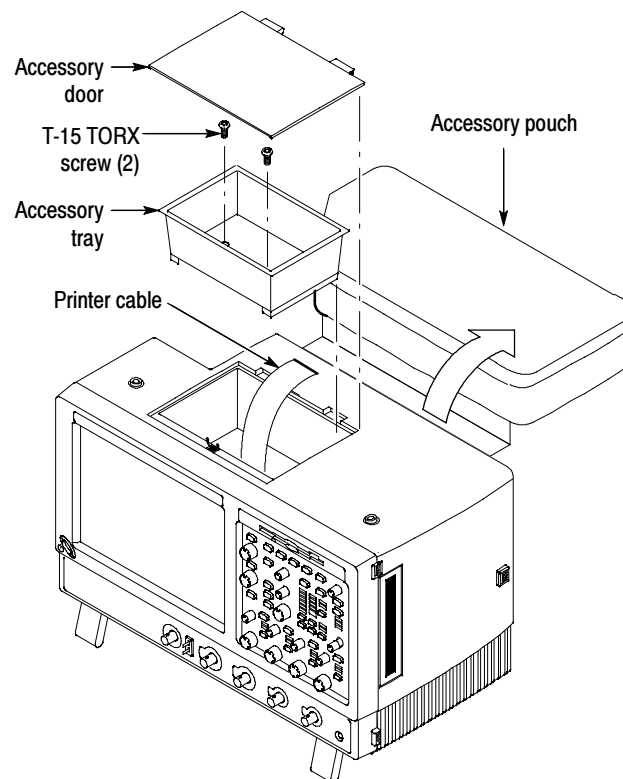

Figure 3: Remove accessory door and tray from instrument
3. Open the accessory door and pull the door straight up to remove it from the hinge. See Figure 3.